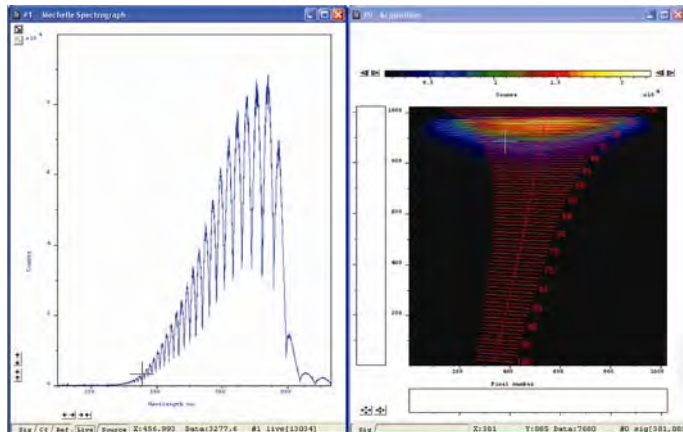

Figure 22: **Live** tab = row data from QTH lamp before correction
4. **Live:** the row data of a new signal. An example for a QTH lamp is shown in figure 22 on page 43).